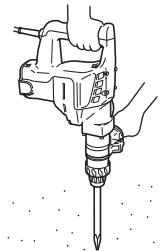

Fig. 4
**2. How to chisel or demolish (Fig. 4)**